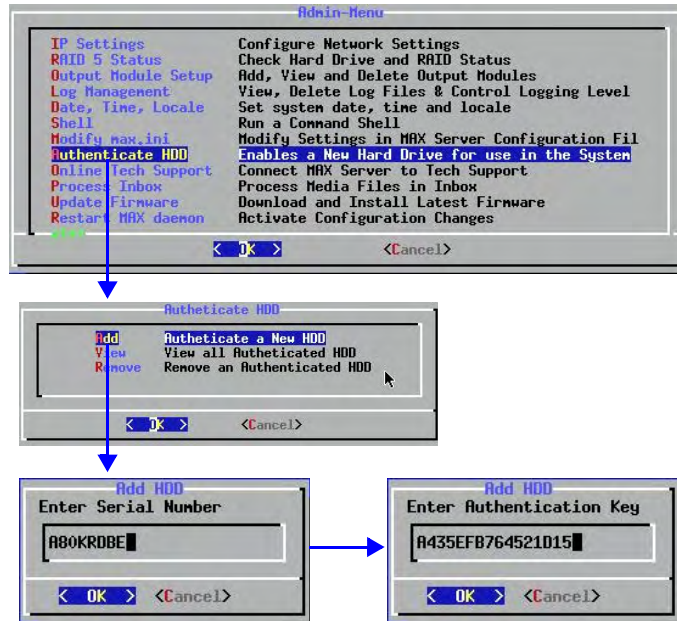

FIG. 48 Admin Menu, Authenticate HDD, and Add HDD dialogs
3. After a brief delay, the *Admin Menu* is displayed (FIG. 48).
Use the other options in the *Authenticate HDD* menu (accessible via the Admin Menu on the MMS), to manage all HDDs in the server, as shown in FIG. 48.